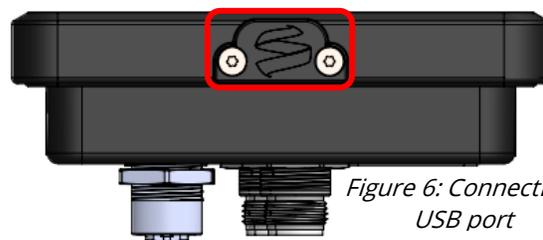

Figure 6: ConnectBox USB port
- 5. **REMOVE** ConnectBox USB port plug with T8 Torx driver (Figure 6).